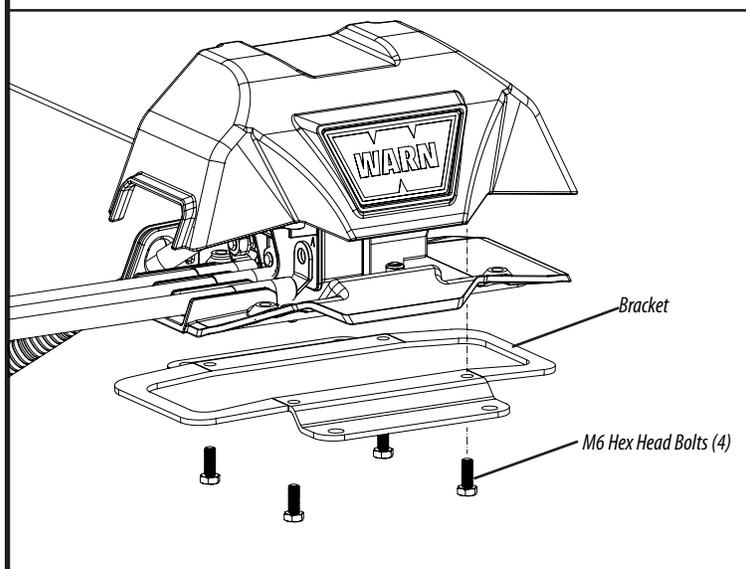

Figure 1
1. Attach the enclosed relocation mounting bracket to the control pack using the supplied M6 hex head bolts and lock washers. Torque to 10 N.m (7.5 lb.ft.). See Figure 1.